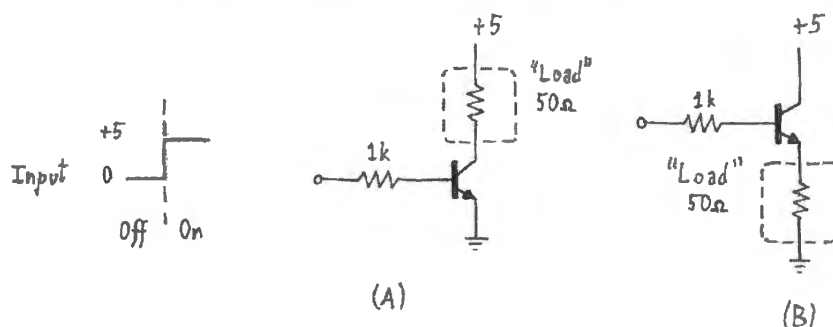

Figure 4W.17 Two possible "switch" circuits.
1. Collector current and switch power: Look at circuit A in Fig. 4W.17; it's a *switch* configuration: